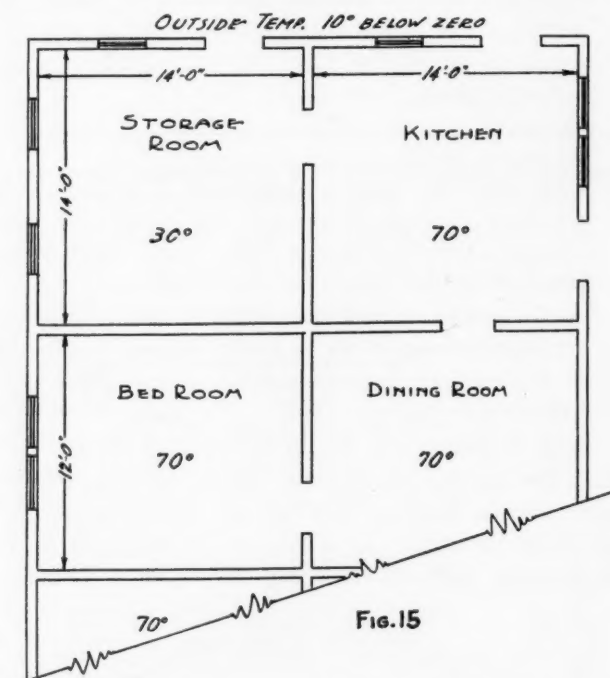

FIG. 15
**S**UPPOSE we are called upon to lay out a heating system for a farm house (Figure 15) having, as many of them do, an unheated room used only for storage. What effect will that cold room have on the heat losses of adjoining rooms?